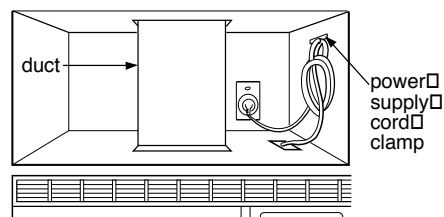

Figure 37
7. Roof venting installation: Install ductwork through the vent opening in the upper cabinet. Complete the venting system through the roof according to the method needed. See Figure 37. See PREPARE THE VENTING SYSTEM, STEP 2. Use caulking gun to seal the exterior roof opening around the exhaust cap. See Figure 6.
8. Use the power supply cord clamp to bundle the power supply cord. Install the power supply cord clamp, using a screw as shown in Figure 37, to inside of the cabinet.